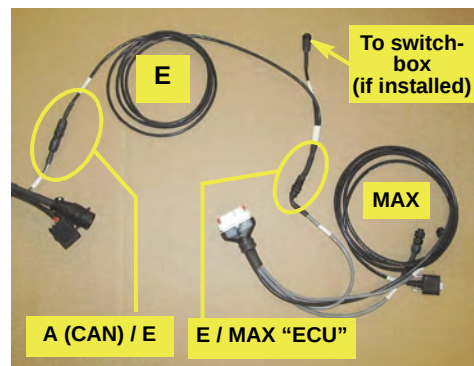

Figure 1c: Splitter cable connections
- Using the splitter (‘Y’) cable **E** (but see note following), tie into the existing CAN connection. For example, connect **E** between the 7-pin CAN connector labeled “ECU” on the Outback MAX cable (with the white main connector) and the 7-pin CAN connector on interface cable **A** (Figure 1c).
You can use splitter cable **E** as an extension cable between interface cable **A** and the CAN connection “ECU” on the (white connector) Outback MAX cable. You can also use cable **E** to connect the switchbox if installed (Figure 1c).